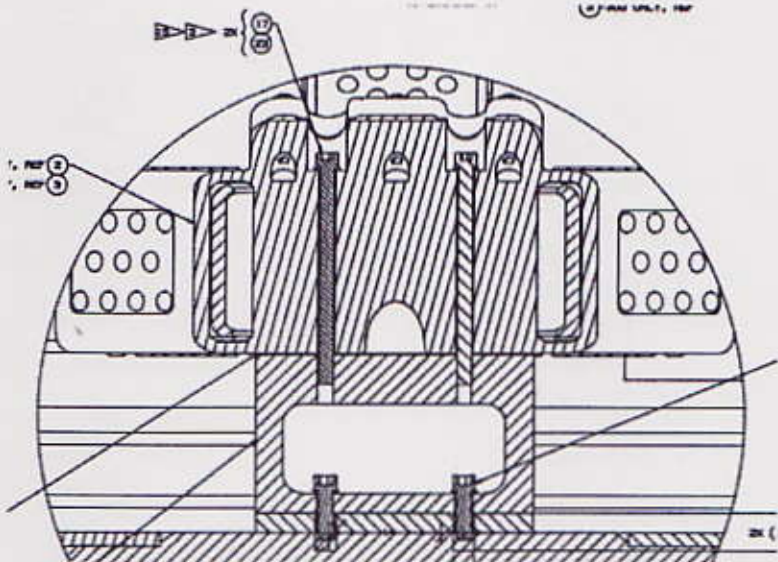

Figure 2
5. Disassemble the LUSS from Shipping Fixture by removing the fasteners, Screw Socket Head, NAS1351N6LB88, and flat washers, NAS1149E0663R, item 17 and 23 in Figure 2, for four corners. Place the fasteners in marked bag for identification.
11. Install Screw Socket Head, NAS1351N6LB88, and flat washers, NAS1149E0663R, item 17 and 23 in Figure 2, for four corners. Record the running torque and final torque per drawing SEG38116930.